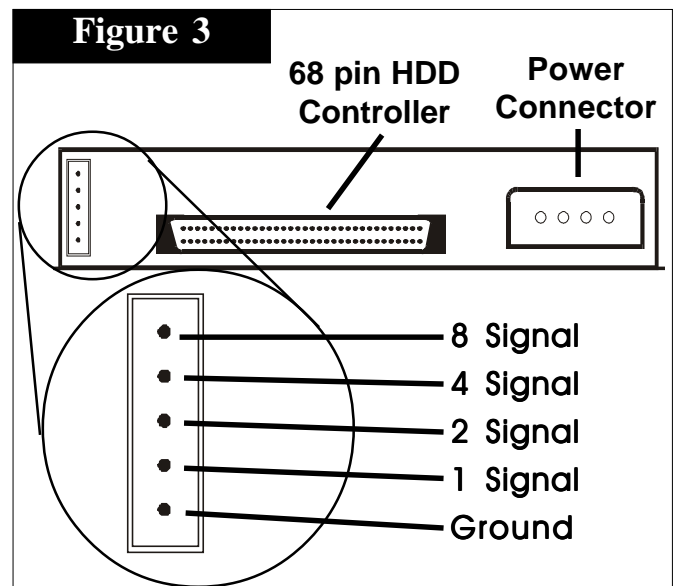

Figure 3
2. Referring to Figure 3, as well as the documentation provided with your enclosure, connect the SCSI ID cables to the five connectors as shown in Figure 3.